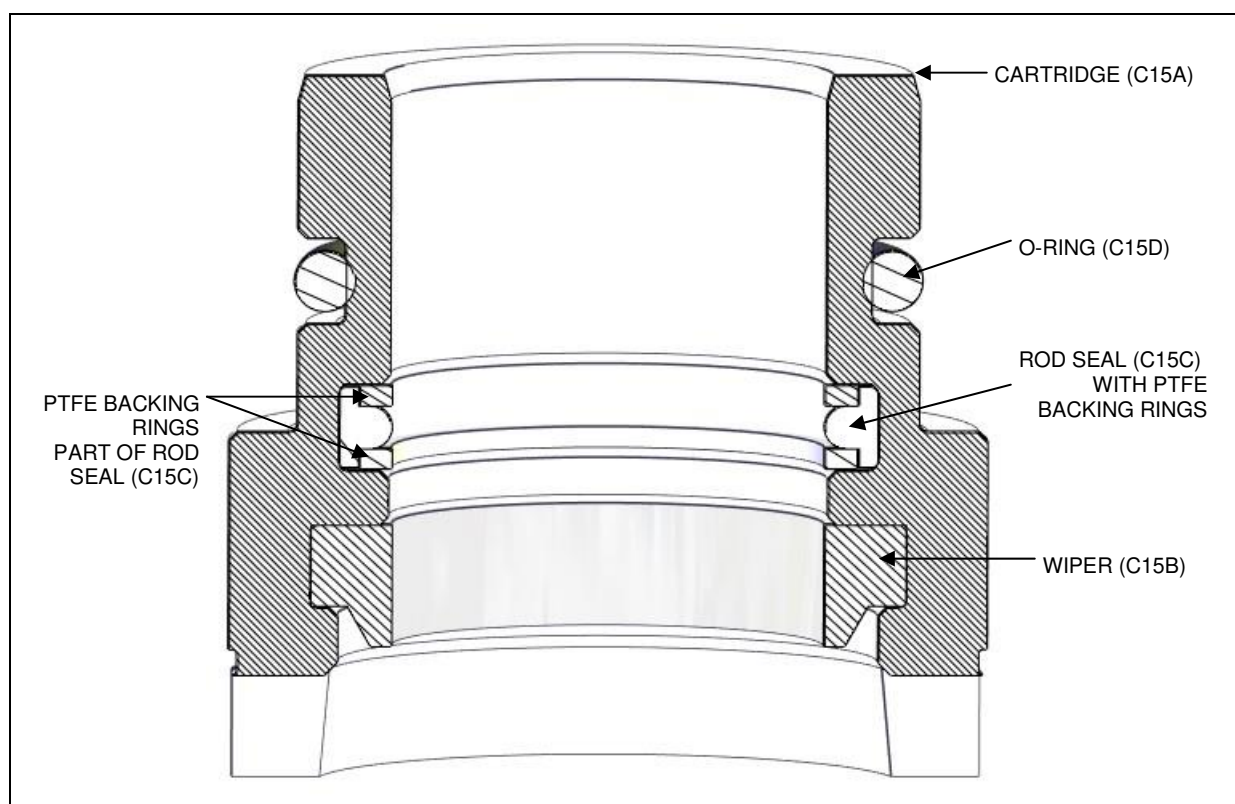

Figure 3: Cartridge Assembly (C15)
See Figure 3. The Rod Seal (C15C) and Wiper (C15B) are installed in the Cartridge (C15), along with an O-ring (C15D).
2. Insert the Rod Seal (C15C) into its groove, making sure it lies flat in the groove. Insert the PTFE backing rings as shown in Figure 3. NOTE: The backing rings are cut with a bevel; make sure the beveled ends of the rings ends meet but do not overlap.